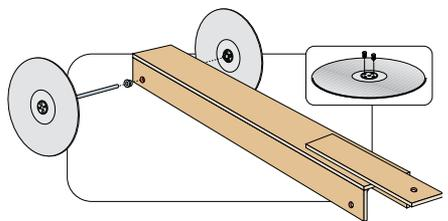

Figure 7
7. While the glue dries, find the four CDs and CD hubs. Using the small screws with the hub set, screw the hubs into the center holes of the CDs (Figure 7 corner).
8. Place four bushings from the hub set into the holes of the side rails. Locate the 1/8" axles and push them through the bushings (Figure 7). Push the CDs onto the ends of the axles to make the wheels.